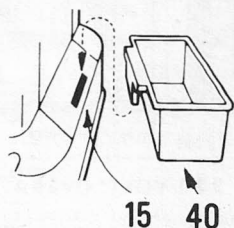

FIGURE 3
- Attach quench tray (40) to front of cover band (15) in knockout slot provided. Lip at side of tray hooks into slot. See figure 3.